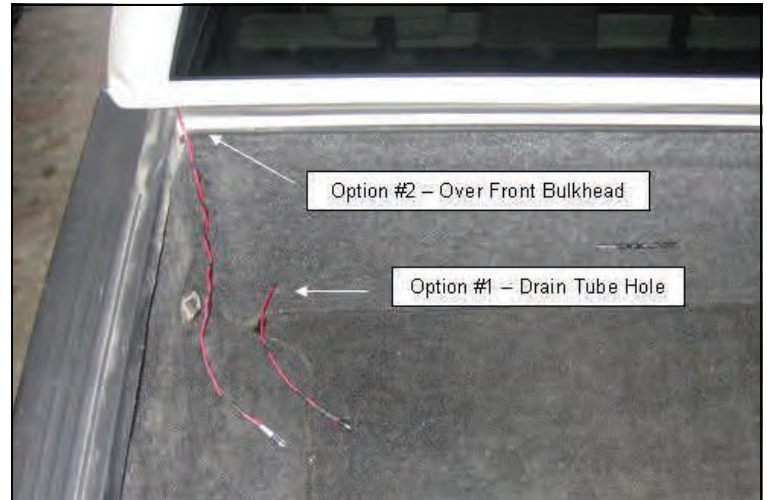

Figure 4—Wiring options in Bed of Truck
4. Two options for routing the wire harness into the truck box are shown below in **Figure 4**.